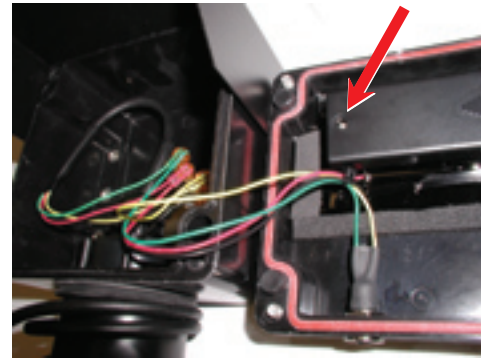

Figure 4. Battery cover and screw
- Loosen the small screw on the battery cover, then remove the battery cover. See arrow in Figure 4.